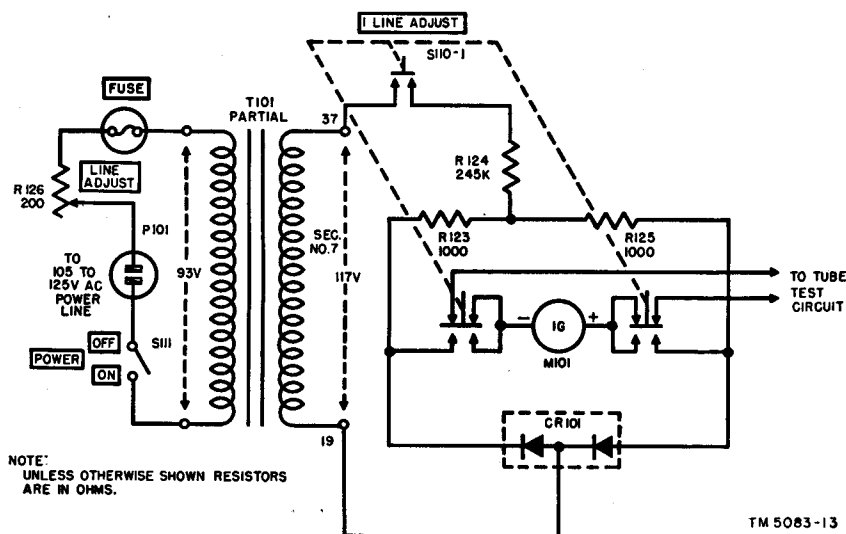

Figure 14. Simplified line voltage test circuit.
- (2) Secondary No. 7 of power transformer T101 consists of a multitapped winding designed to supply the various filament or heater voltages for the tubes under test. Voltages shown on figure 14 are measured under load. No-load voltages will be somewhat higher. For example, no-load voltage measured from point 19 to point 37 will be approximately 121 volts with 93 volts on the primary. Secondary No. 7 also supplies voltage for rectifier emission tests.
- (3) Secondaries No. 1 and No. 2 supply approximately 154 volts ac to the plates of the type 83 tube (V101) which supplies
b. Line Voltage Test Circuit (fig. 14).
- (1) Press the 1—LINE ADJ. push button to connect the meter to the rectifier bridge system which is made up of copper oxide rectifier CR101 and resistors R123 and R125. The a-c voltage obtained from points 19 and 37 of the power transformer is applied to the bridge network through resistor R124.
- (2) Resistor R124 is of such value that 121 volts rms (root mean square) obtained from terminal 19 to terminal 37 of the power transformer cause meter M101 to read at LINE TEST.
- (3) The power transformer is so designed that if 93 volts a-c rms are applied to the primary winding, 121 volts a-c rms are induced across the total secondary No. 7 winding or across points 19 and 37.
- (4) Keep the 1—LINE ADJ. push button pressed down and turn the LINE ADJUST control (R126) until the pointer of the meter is exactly over the LINE TEST mark, and a standard